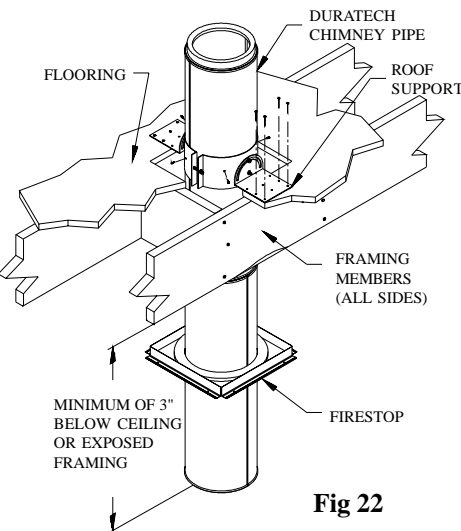

Fig 22
Alternative Installation Location for Roof Support: The Roof Support may be used at the bottom of a Chimney installation (Fig 22). This may be useful for some
2. Bolt on the Roof Support Brackets to the Roof Support Band using the supplied hardware. Attach the Roof Support Brackets to floor using (4) 8 penny nails or (4) #8, 1-1/2" screws per side (Fig 22).